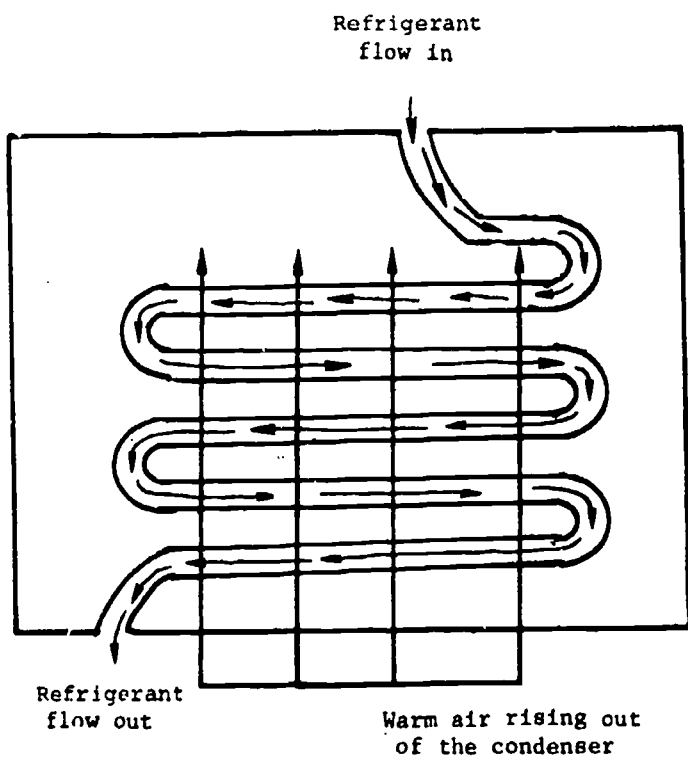
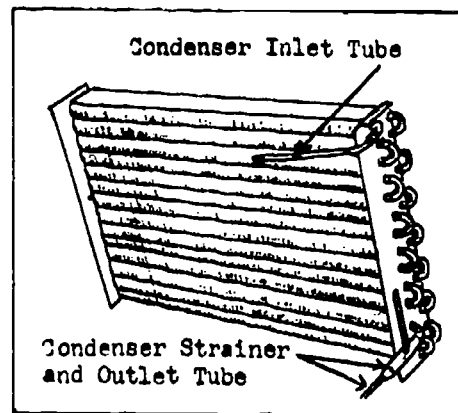

Fig 2-7. Simple static-type air-cooled condenser.
Fig 2-8. Forced-convection-type air-cooled condenser.
- (1) In forced-convection-type units, fans are driven by the compressor motor or by a separate motor in the case of hermetic compressors. To increase the efficiency of a condenser that uses forced convection for cooling, a metal casing or shroud is used. This causes a funneling of the air and directs all air movement over the condenser's surface. These condensers are frequently built with 2 or 3 layers of tubes and are finned.
- (2) Some large commercial types of air-conditioning units will have the condenser mounted outdoors away from the rest of the system. The refrigerant vapor is pumped from the compressors through the compressor discharge line to the condenser and the liquid is piped back to the building. These condensers are usually quite large, dissipate a large amount of heat, and are forced-convection type. Figure 2-7 shows a schematic of a simple static-type condenser while figure 2-8 shows a forced-convection type using a finned surface and a fan.